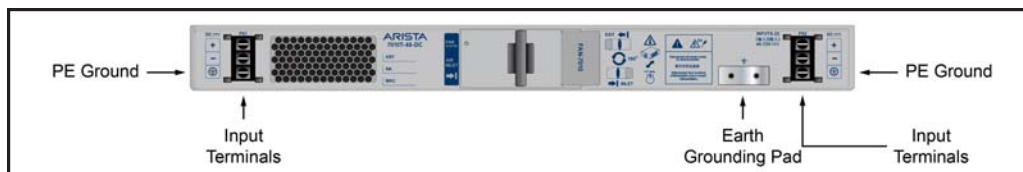

Figure 4-2: DC Input Terminals and DC Grounding Pad
Figure 4-2 displays the location of the earth grounding pad and the DC input terminals.
Step 1 Attach the secondary grounding pad to the Data Center ground (Figure 4-2 on page 12).